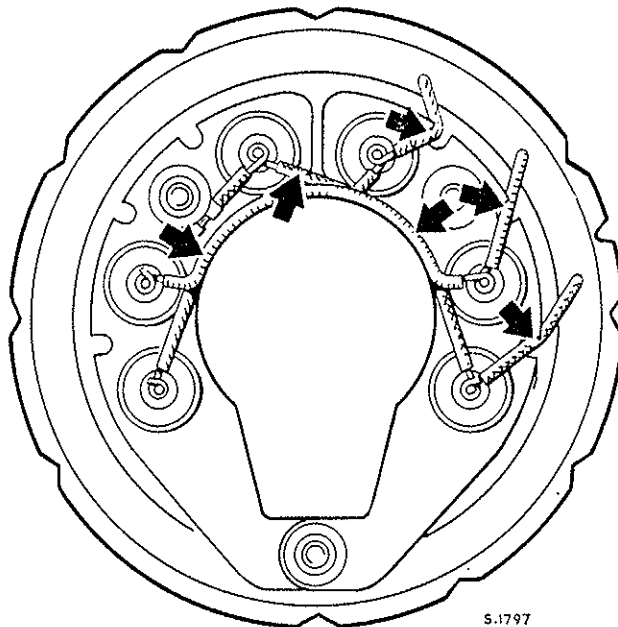

Fig. N.16. Heat sink cable securing points
4. After soldering, the connections must be neatly arranged around the heat sinks, to ensure adequate clearance for the rotor, and be tacked down with "MMM" EC1022 adhesive where indicated in Fig. N.16. The stator connections must pass through the appropriate notches at the edge of the heat sink.